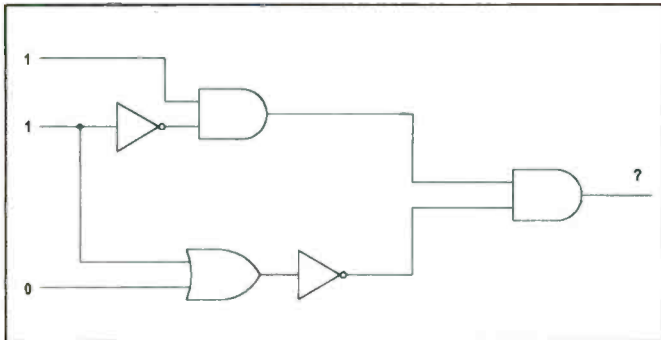

Figure 1.
4. What is the output logic level of the gate circuit in **Figure 1**?